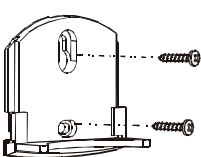

Fig. 15
3. Fix the bracket on ceiling or wall with the enclosed screws. Figs. 15 and 16